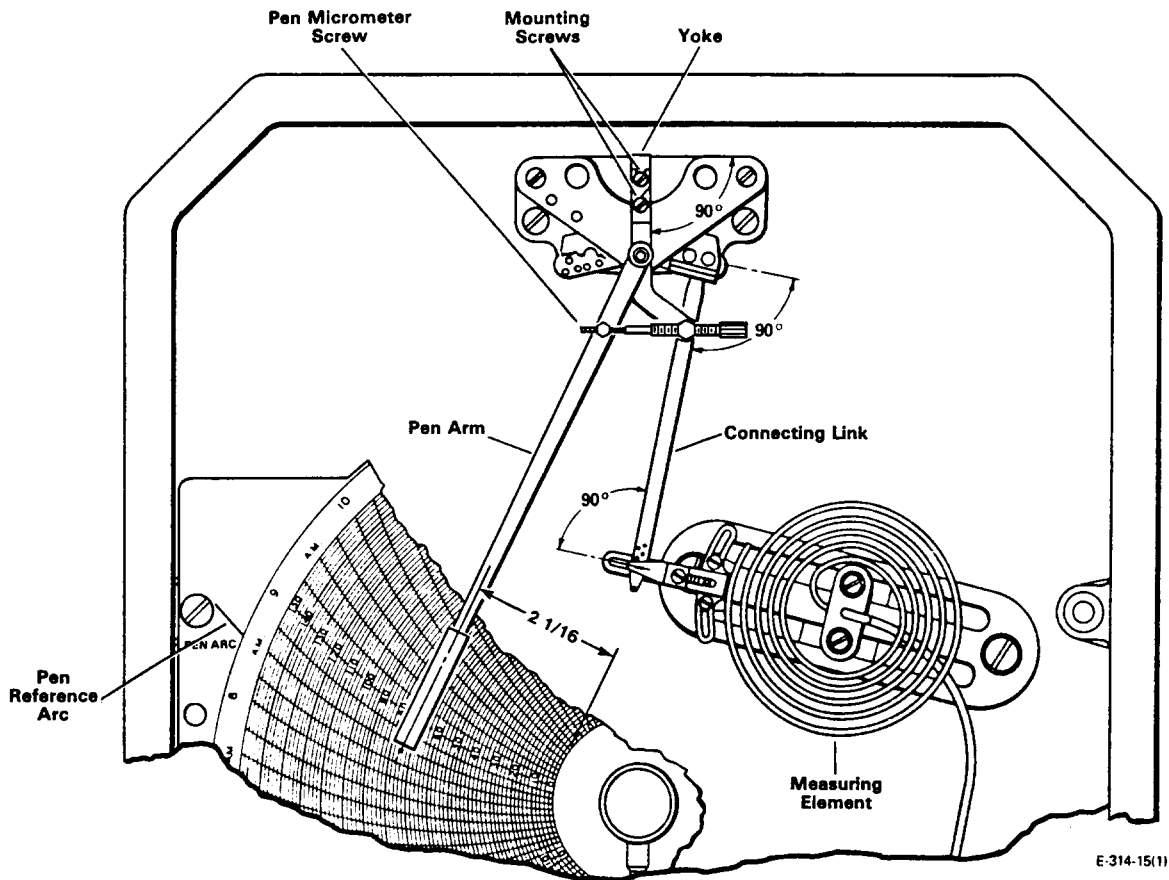

Figure 13. Adjusting Pen Arm Micrometer Screw
3. Center the micrometer screw on pen arm. If equal thread exposure cannot be obtained, remove screw and start both small and large diameter threads simultaneously. See Figure 13.
4. Hold pen at the mechanical center of chart. (50% on a uniform chart.) The yoke, Figure 13, should be vertical. If it is not, check for parallel assembly of pen arm to yoke in the area of the 2 mounting screws. Adjust if necessary.
9. Connect link to take-off arm pivot using scribed hole, Figure 13.
11. Observe linkage angles as shown in Figure 13. Continue changing pivot hole selection and Coarse zero adjustment until 90° angles appear with pen at midchart. Linkage is now square and aligned for calibration.
2. Set the pen to read the correct value on the chart. Use the coarse zero adjustment on measuring element for errors of 3% or more. Use the micrometer screw, Figure 13, for errors of less than 3%.
2. Remove chart plate and connecting link, Figure 13.